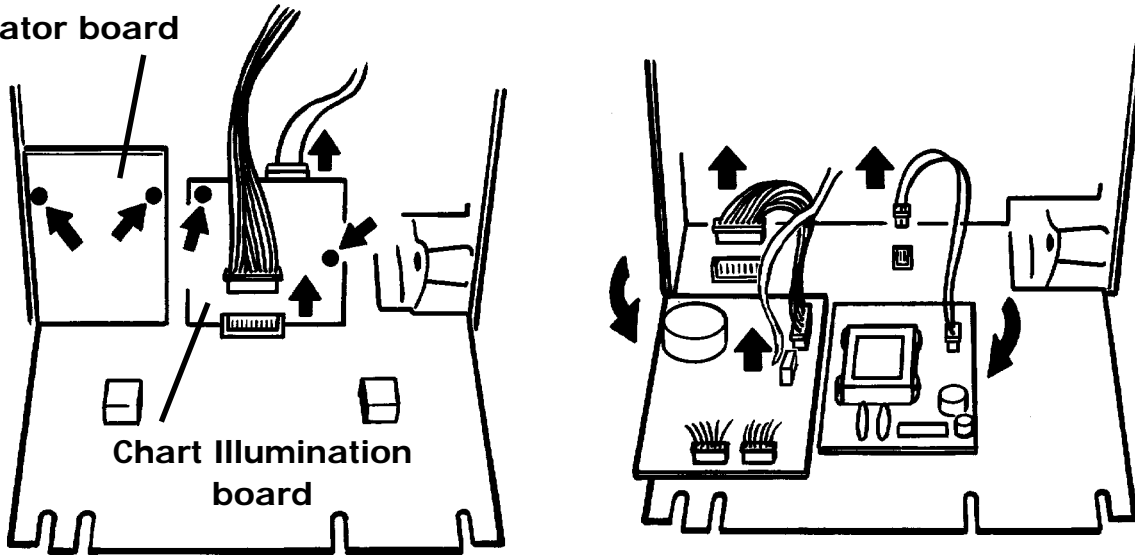

Figure 3 Removal of annotator and Chart illumination boards
4. Remove the annotator and/or CIL board(s) if fitted, as shown in figure 3.